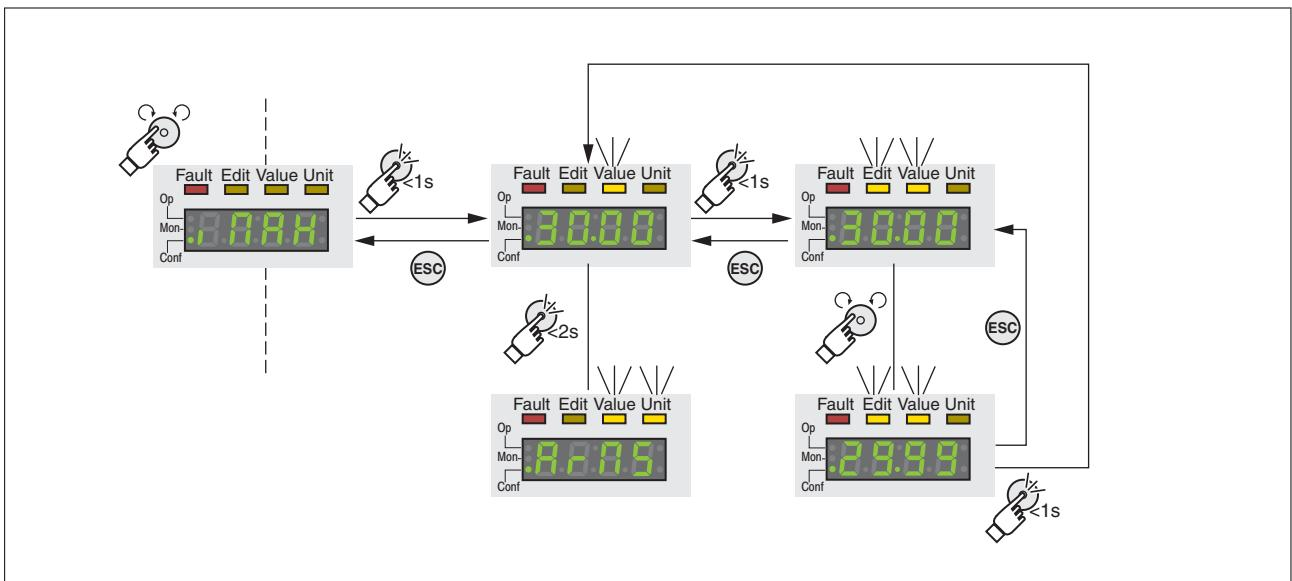

Figure 39: Integrated HMI, example of setting a parameter
- The parameter i_{RH} (iMax) is shown on the 7-segment display, see Figure 39.